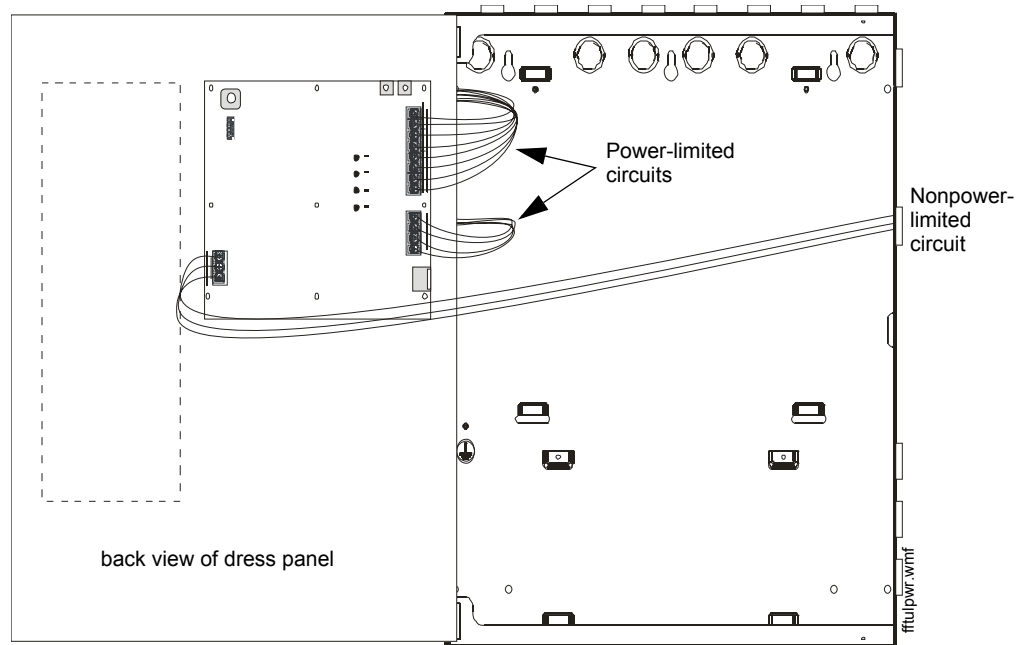

Figure 2.4 UL Power-Limited Wiring Requirements
- Route the wiring around the inside perimeter of the cabinet. It should not cross the circuit board where it could induce noise into the sensitive microelectronics or pick up unwanted RF noise from the high speed circuits. See Figure 2.4 for an example.